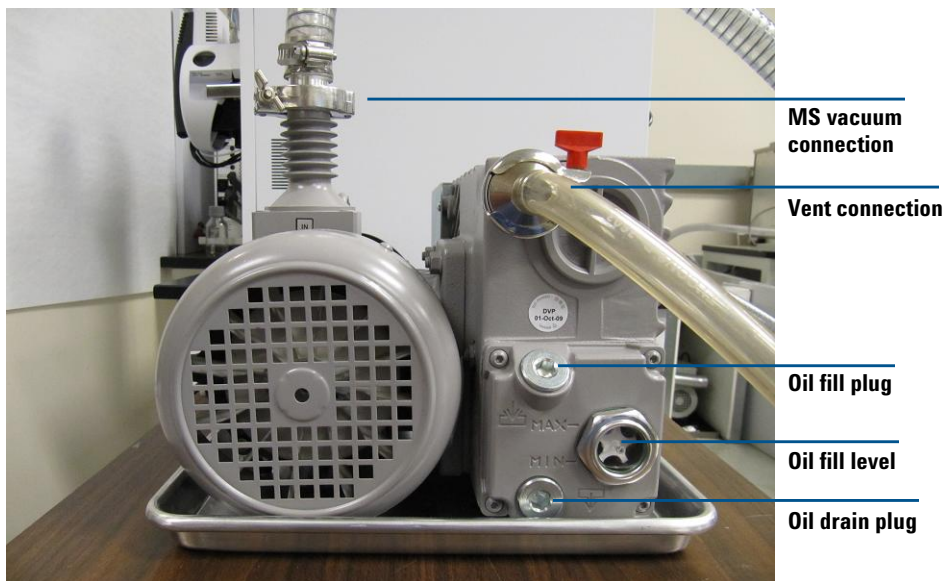

Figure 63 Fluid level window on the rough pump
- Check the fluid level in the window of the rough pump. The fluid level should be between the marks for Max and Min (see Figure 63).